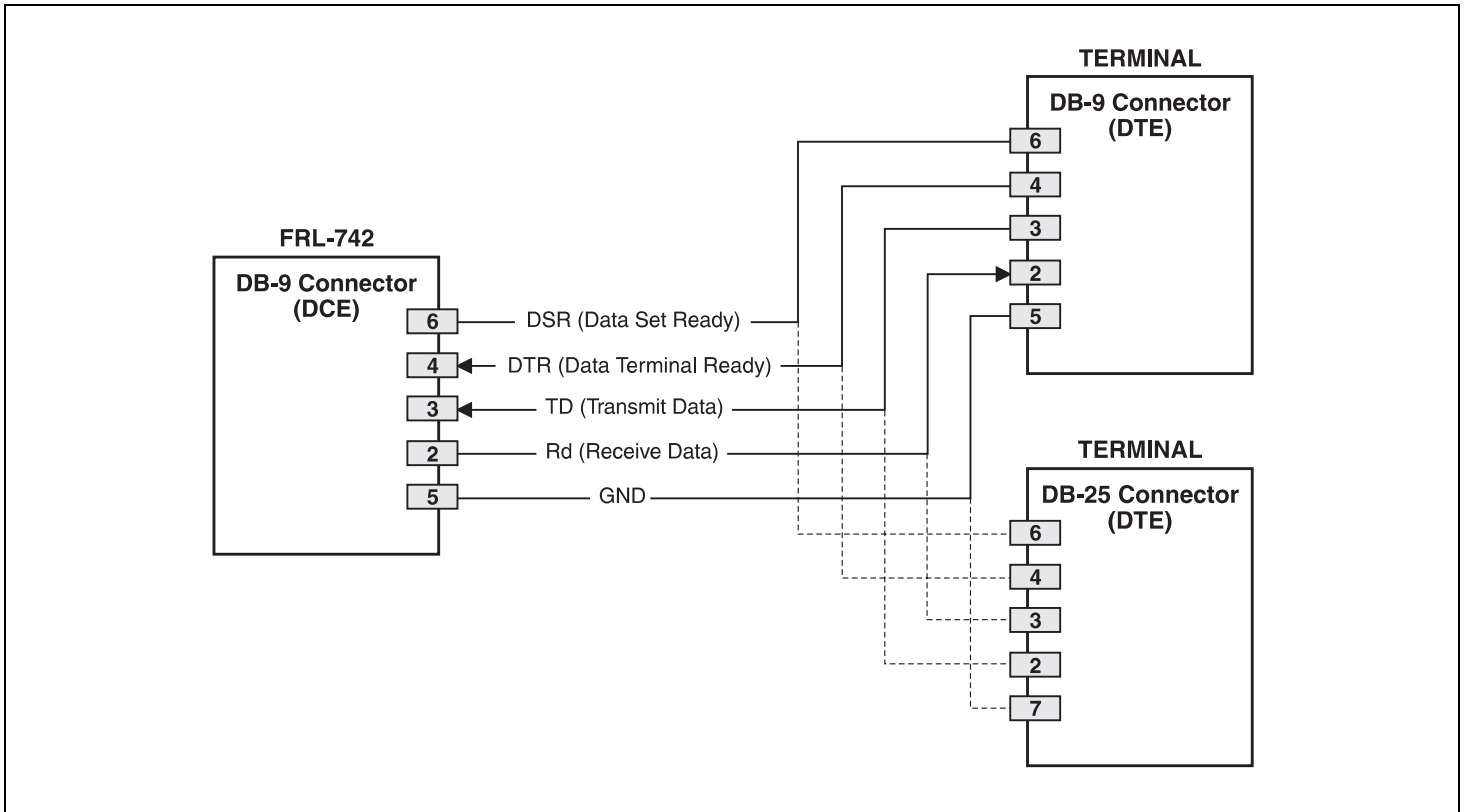

Figure 4. FRL-742 DB-9 Pin Outs. A standard RS-232 (DB-9) connector on the front panel provides access to the menu interface feature via an ASCII terminal.
8.01 The terminal management function at the remote terminal enables a technician to monitor the entire PG-Flex system through an ASCII terminal (or equivalent) connected to the maintenance port. The pin-outs for the standard RS-232 (DB-9) maintenance port connector are shown in Figure 4. With the management function, the technician can view status, configuration, performance, and inventory information, but cannot make any changes or initiate a subscriber test access.